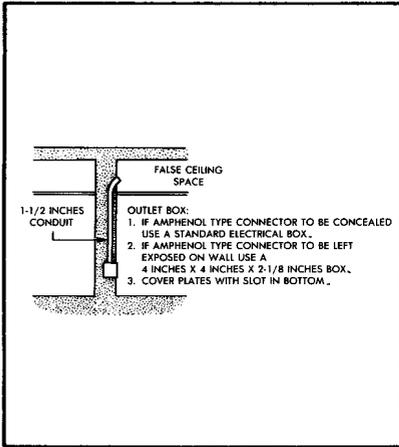

FIGURE 9. Conduit in Wall
- a. 1-1/2 inch conduit in wall or partition to outlet box. See Figure 9.